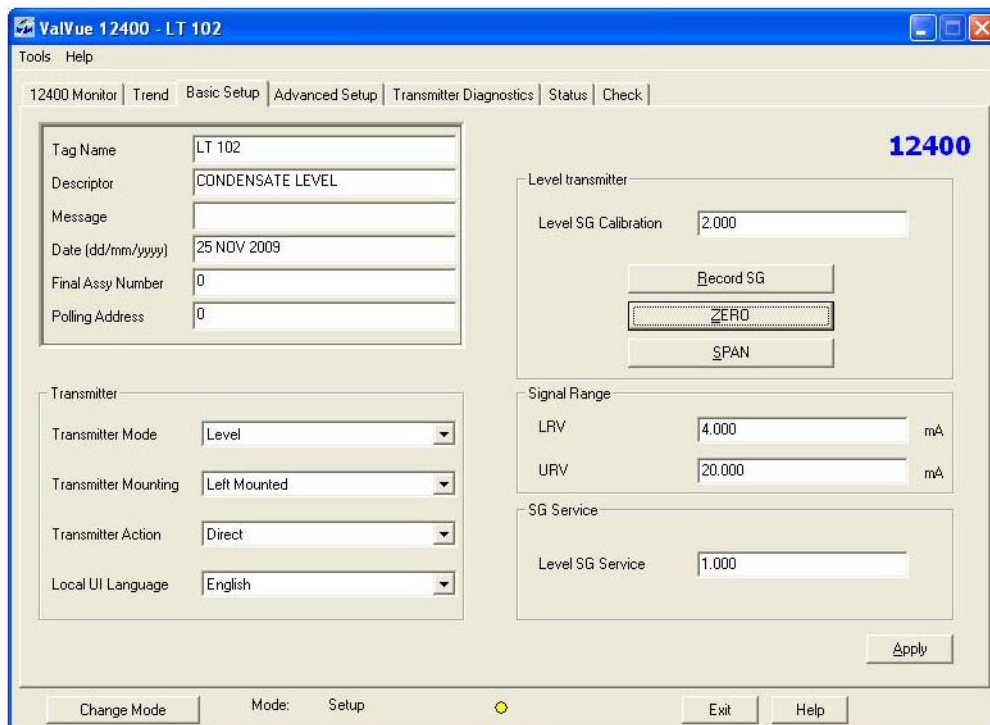

Figure 150 Selecting SG ZERO
1. Click **ZERO** (Figure 150).